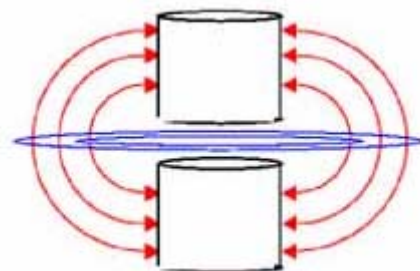

FIGURE 1 - E AND H FIELDS OF AN ANTENNA
You need to understand the E and H fields of an antenna before going into the circuit details of the network. **Figure 1** depicts a short fat dipole. However, a wire dipole would have similar electric (E) and magnetic (H) fields. It is important to note that the E field lines (only a few are shown) must leave or enter the surface at right angles to the surface and are circular between surfaces. The E field lines are shown in red and only a cross section is depicted. H field lines are orthogonal and surround the E field lines.